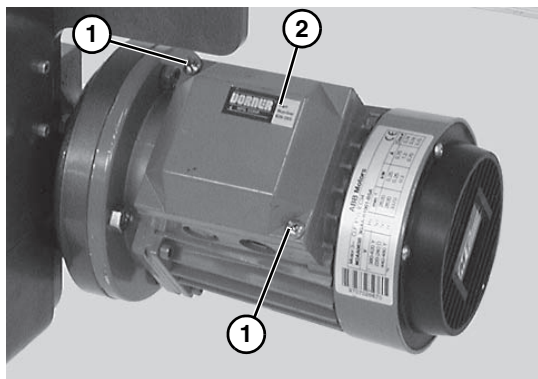

Figure 23
- a. Loosen terminal box screws (Figure 23, item 1) and remove cover (Figure 23, item 2).